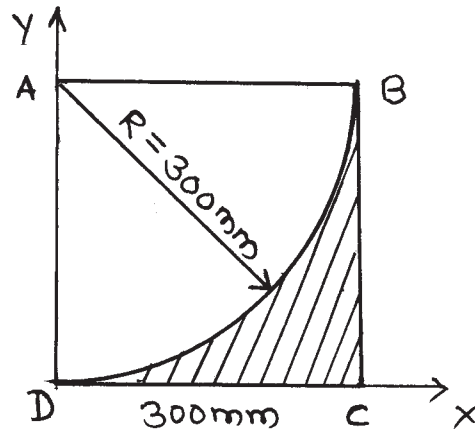

Fig. No. 10.
- b) ABCD is a square plate of uniform thickness having each side of 300mm. With A as centre and 300mm as radius, a quarter circular portion ABD is removed as shown in Fig. No. 10. Locate the centroid of the remaining plate.